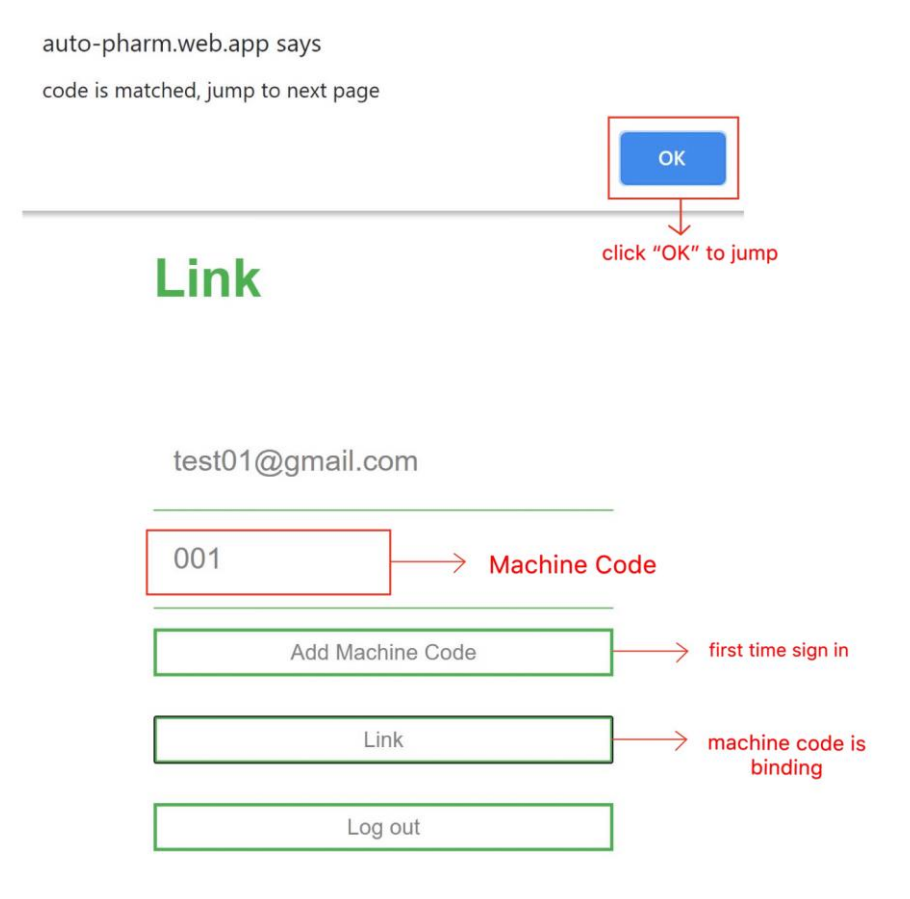

Figure 3: Website Link Machine Code Page
- II. Click on the “Sign In” button, navigating to the “Link” page and bind with the specific Machine Code, as shown in figure 3.